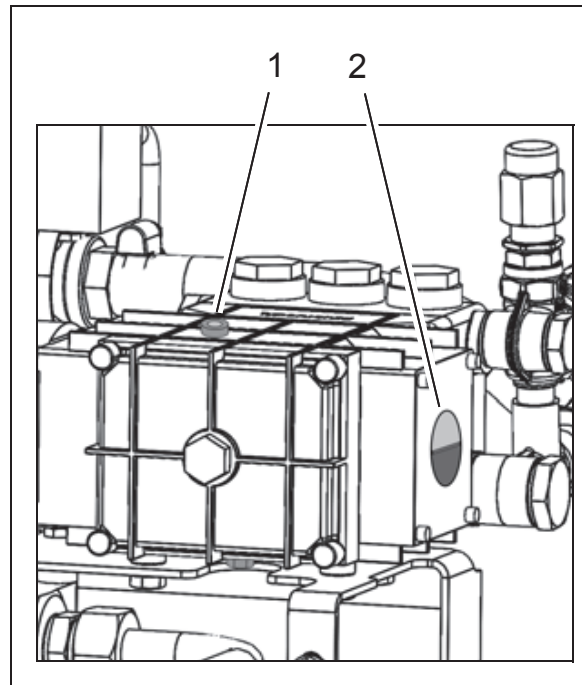

Fig.11
1. Unscrew the dip stick (Fig. 11/1).
2. Check the oil level on the sight glass (Fig. 11/2), if necessary refill a little oil.